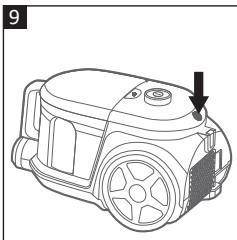

Fig. 9
3. Hold the plug and press the Cord rewind button (14) with the other hand to rewind the cord automatically (**Fig. 9**). Guide the cord with your hand to prevent the plug and cord to whip when rewinding.
4. To transport the vacuum cleaner, lift the carry handle (14).